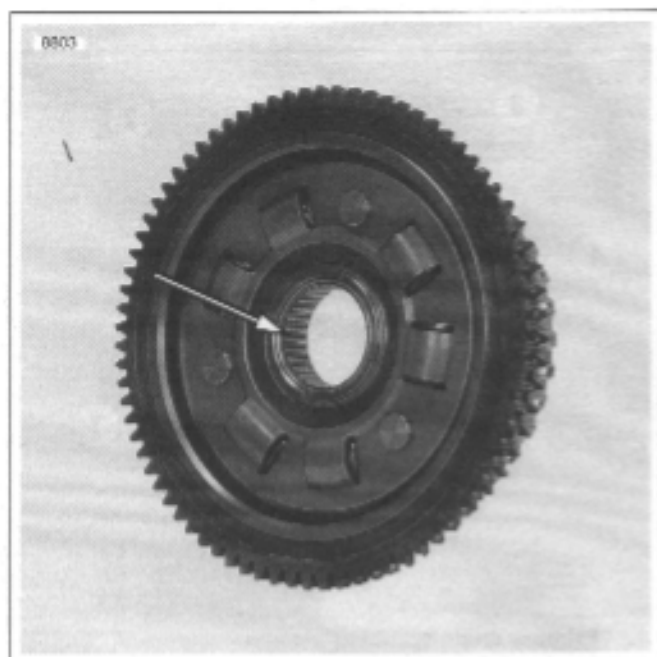

Figure 6-24. New Needle Bearing in Clutch Shell
6. See Figure 6-24. Inspect clutch shell needle bearing for smoothness. Rotate the clutch shell while holding the clutch hub. If bearing is rough or binds, it must be replaced. See **Replacing Clutch Shell Bearing**.